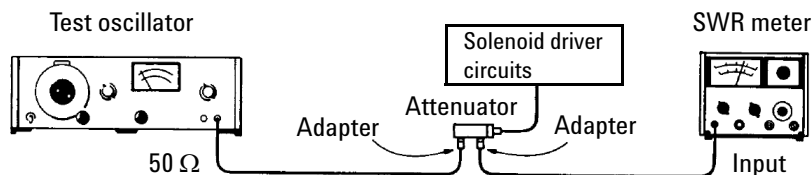

Figure 5 Operator's Check Setup
- 1 Connect equipment as shown in Figure 5 on page 29 with the attenuator set to 0 dB attenuation.